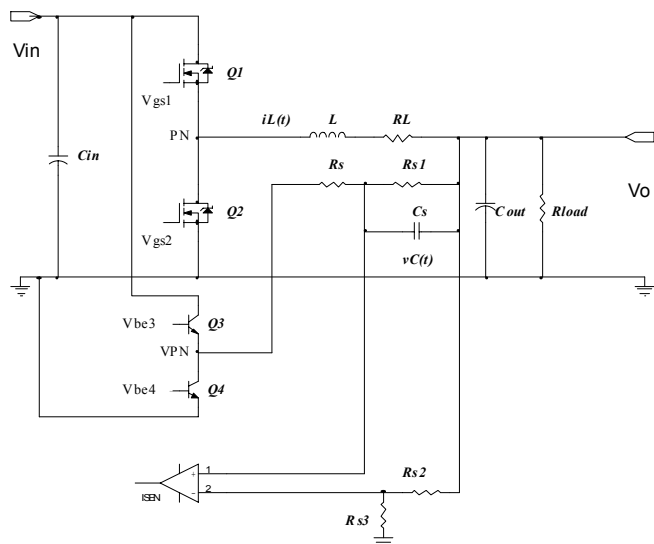

Figure 14. Circuit for setting current-limit different from  $50\text{mV}/R_{\text{eq}}$
In the application circuit,  $R_{eq} = 9.56\text{m}\Omega$  so  $I_{LM} = 5.23\text{A}$ . In other applications, different current limits may be required. The circuit in Figure 14 allows the user to set current-limit different from  $50\text{mV}/R_{eq}$ .
a) The required current limit  $I_{LM}$  is higher than  $I_{LMcp}$ .  $R_{s3}$  is deleted from Figure 14.  $R_{s2}$  is given by
b) The required current limit  $I_{LM}$  is less than  $I_{LMcp}$ .  $R_{s1}$  is deleted from Figure 14.  $R_c$  is given by